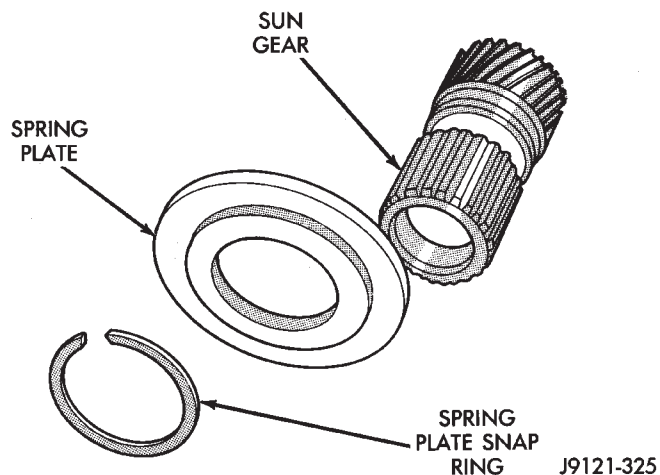

Fig. 44 Sun Gear And Spring Plate Assembly
(12) Install direct clutch spring plate on sun gear. Shoulder side of plate should face outward and toward front. Then secure plate to sun gear with snap ring (Fig. 44).
(13) Coat planetary thrust bearing and bearing contact surface of spring plate with generous amount of petroleum jelly. This will help hold bearing in place during installation.
(14) Install planetary thrust bearing on sun gear